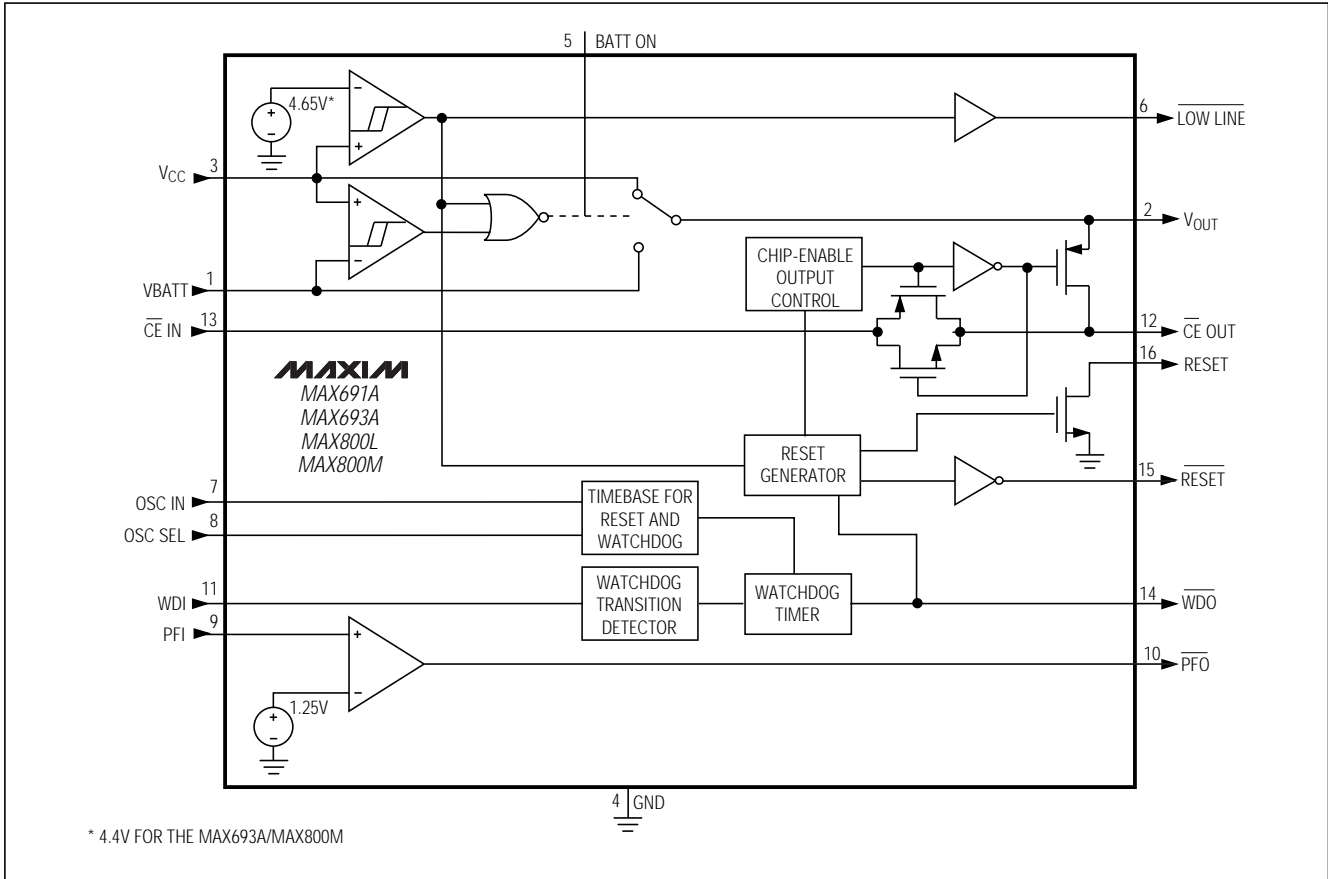

Figure 4. MAX691A/MAX693A/MAX800L/MAX800M Block Diagram
The MAX691A/MAX693A/MAX800L/MAX800M provide internal gating of chip-enable (CE) signals to prevent erroneous data from being written to CMOS RAM in the event of a power failure. During normal operation, the CE gate is enabled and passes all CE transitions. When reset is asserted, this path becomes disabled, preventing erroneous data from corrupting the CMOS RAM. All these parts use a series transmission gate from \overline{CE} IN to \overline{CE} OUT (Figure 4).